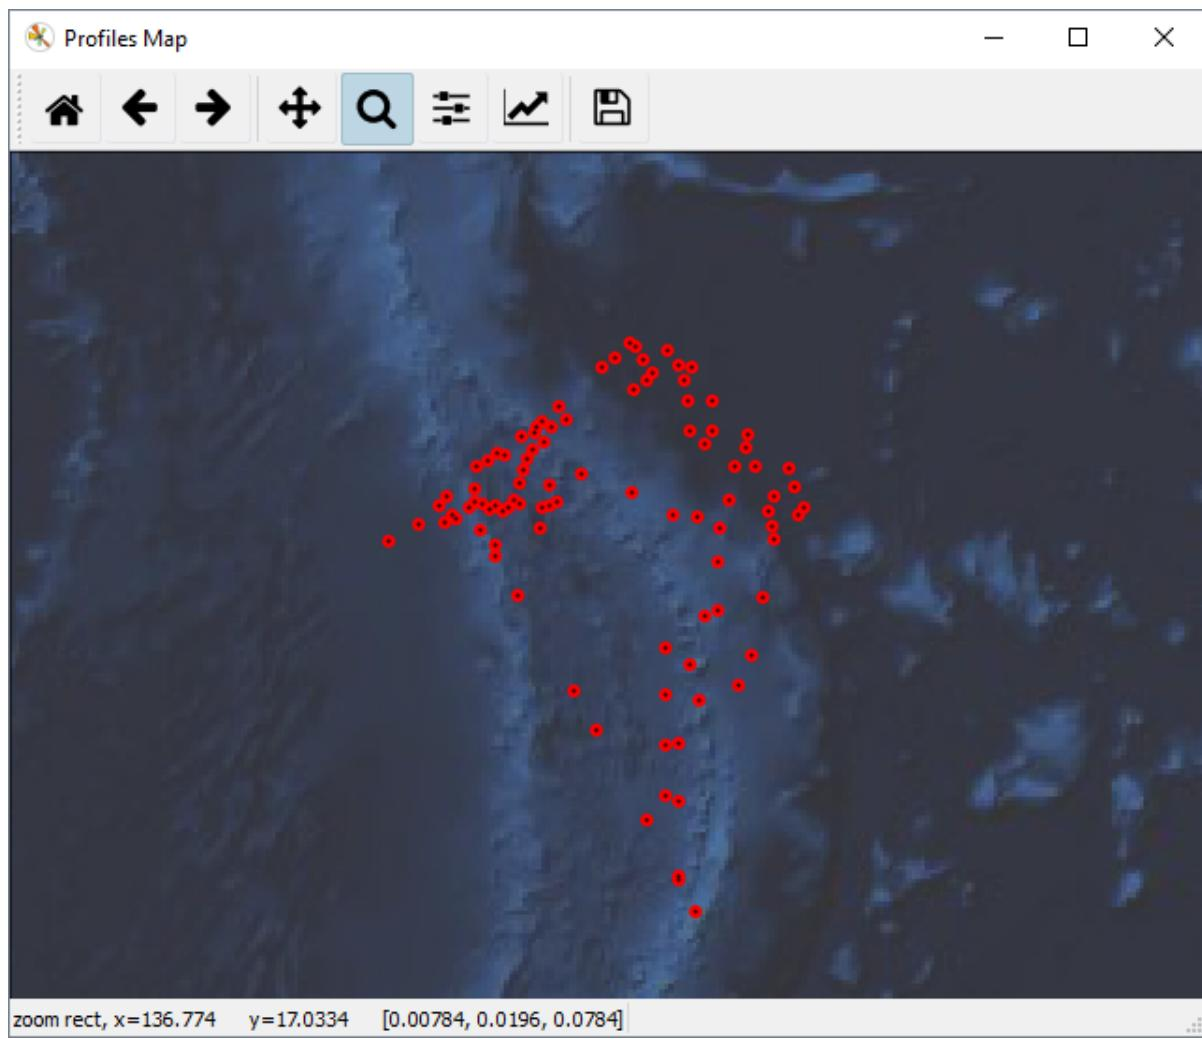
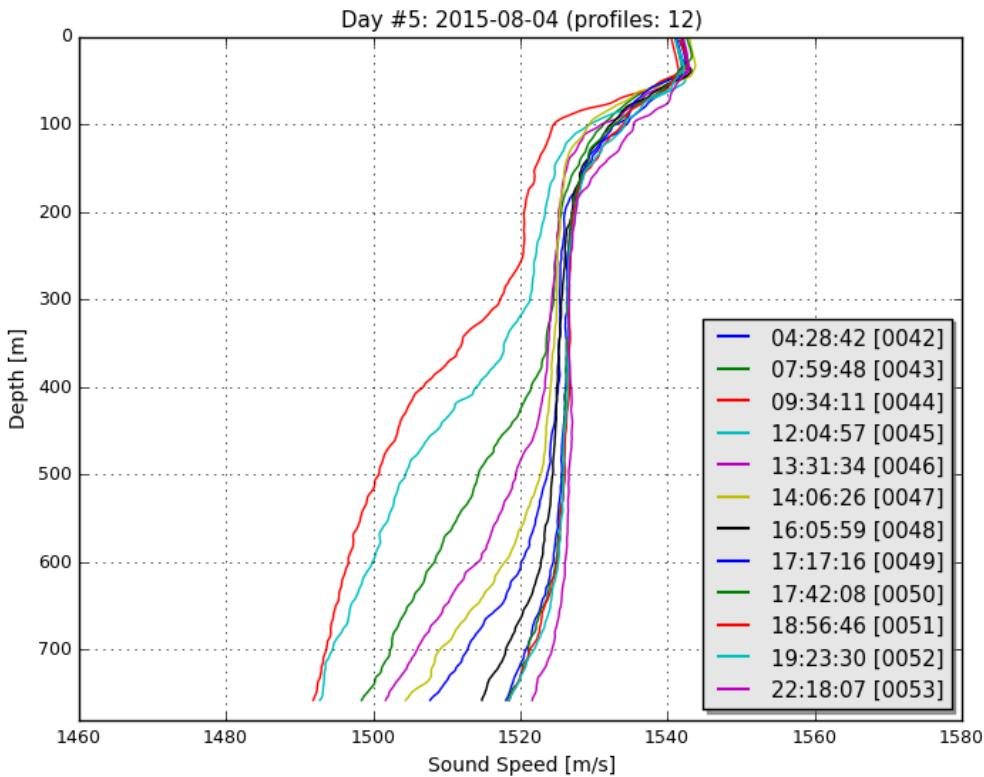
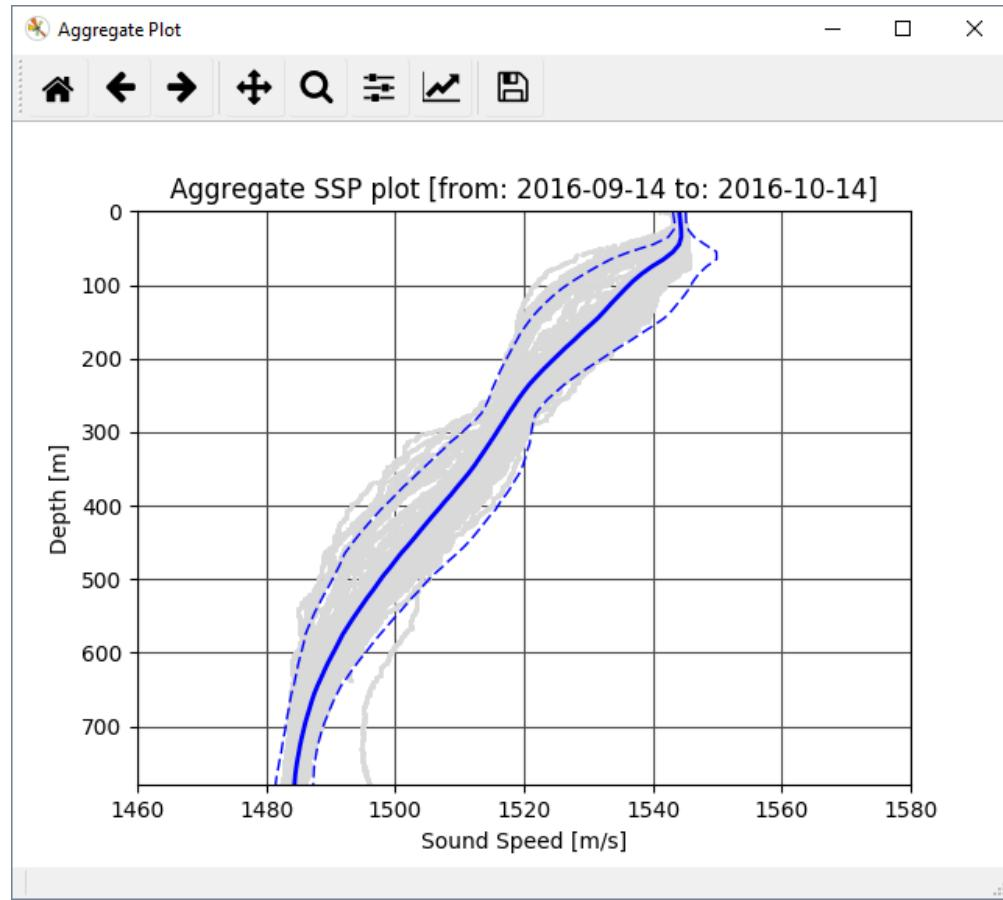

Fig. 2.54: Example of a map created from a stored SSP data set.
Fig. 2.55: Example of a daily plot that can be created from a stored SSP data set.
Fig. 2.56: Example of aggregate plot to study the sound speed variability during a selected time span.
- Create maps (Fig. 2.54) and plots (Fig. 2.55 and Fig. 2.56).